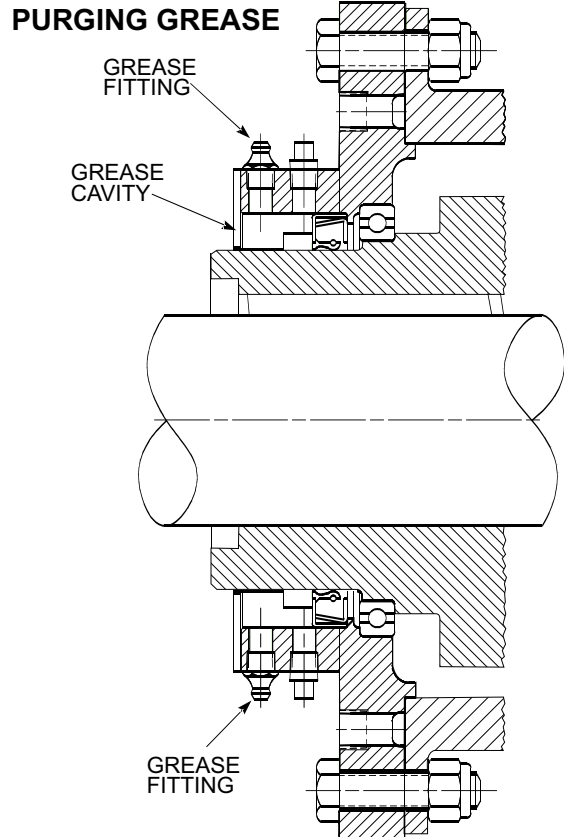

Figure 11
**GREASE PURGED SEALS** — The purchaser/user is responsible for adding grease to grease cavities, see Figure 11. Fill grease cavity by slowly pumping NLGI #2 grade grease into OUTER grease fittings (see Figure 6, page 6) with HAND GREASE GUN until fresh grease flows out along the shaft. Wipe off purged grease.